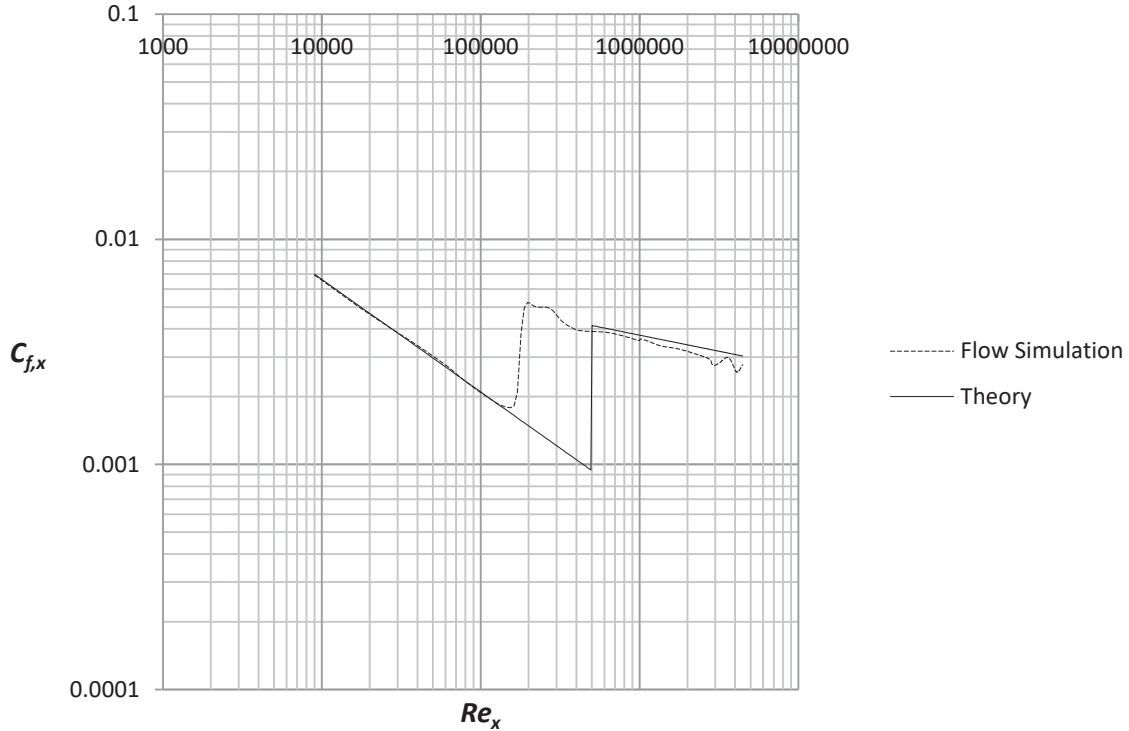

Figure 2.32 Flow Simulation (dashed line) and theoretical turbulent friction coefficients
32. Place the file “**graph 2.32**” on the desktop. Repeat step **24** and choose the sketch $x = 0 - 0.9 \text{ m}$, uncheck the box for **Velocity (X)** and check the box for **Shear Stress**. Rename the xy -plot to **Local Friction Coefficient for Laminar and Turbulent Boundary Layer**. An Excel file will open with figure 2.32. Figure 2.32 shows the Flow Simulation is able to capture the local friction coefficient in the laminar region in the Reynolds number range 10,000 – 200,000. At Re slightly less than 200,000 there is an abrupt increase in the friction coefficient caused by laminar to turbulent transition. In the turbulent region the friction coefficient is decreasing again but the local friction coefficient from Flow Simulation is significantly lower than empirical data.